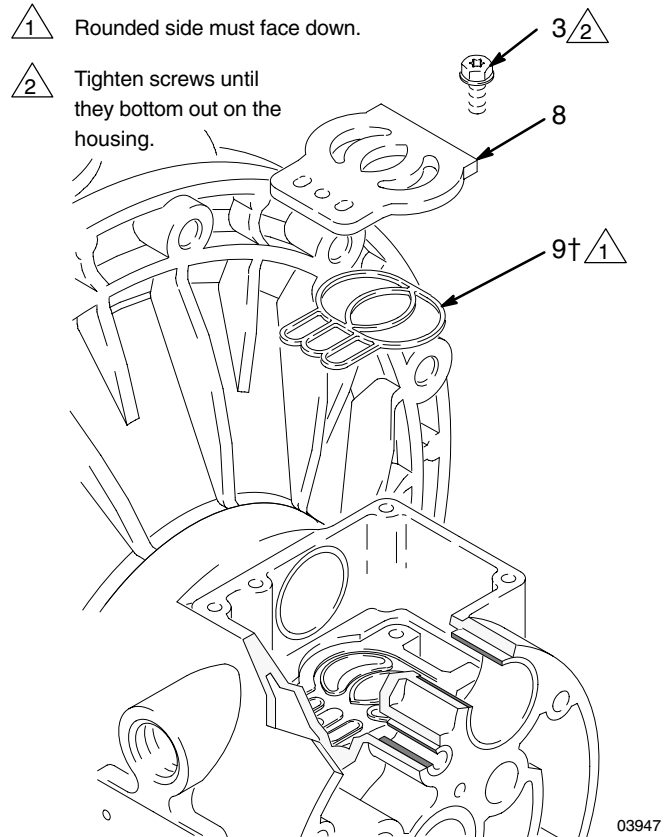

Fig. 10
5. Inspect the valve plate (8) in place. If damaged, use a Torx (T20) screwdriver or 7 mm (9/32") socket wrench to remove the three screws (3). Remove the valve plate (8) and seal (9). See Fig. 10.
2. Install the valve plate seal (9†) into the groove at the bottom of the valve cavity. The rounded side of the seal **must face down** into the groove. See Fig. 10.
3. Install the valve plate (8) in the cavity. The plate is reversible, so either side can face up. Install the three screws (3), using a Torx (T20) screwdriver or 7 mm (9/32") socket wrench. Tighten until the screws bottom out on the housing. See Fig. 10.